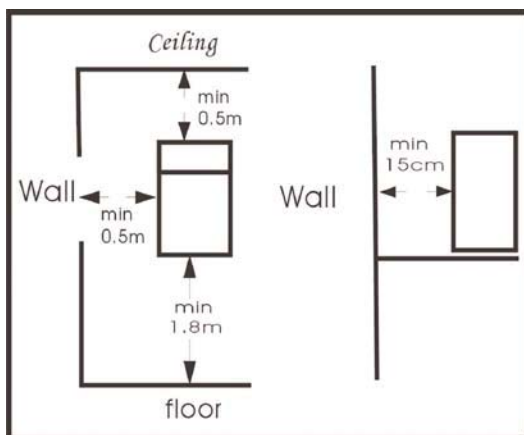

Figure 2. Installing your Heater
- If the fan heater is to be permanently installed, the following instructions must be observed (see figure 2).